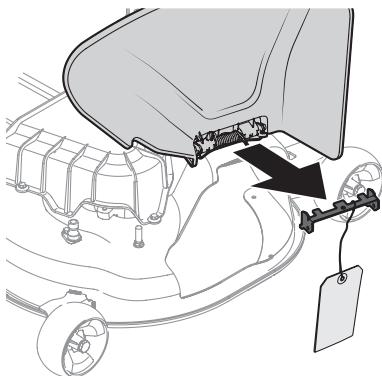

Figure 2-5
1. Check the mower deck for a shipping brace that may be holding the chute deflector upward for shipment. If the brace is present, it must be removed before operating the tractor. Holding the chute deflector fully upward, remove the shipping brace. Lower the chute deflector and discard the shipping brace. See Figure 2-5.